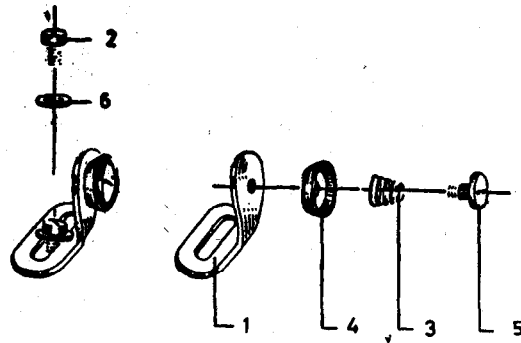

FIG. 13 TENSION ANGLE ASSEMBLY
**2.13 Tension Angle Assembly — See Fig. 13.**